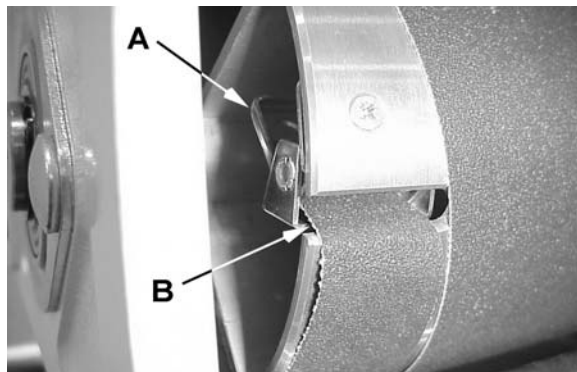

Figure 9
3. Squeeze the *fastener lever* (A, Fig. 9) on the outboard end of drum, and insert the tapered end of the *abrasive* (B, Fig. 9) so that it uses most of the width of the slot. Release the fastener lever to securely hold the strip end to the fastener.
4. The cut edge of the abrasive strip should follow the edge of the drum, as shown in Figure 9.